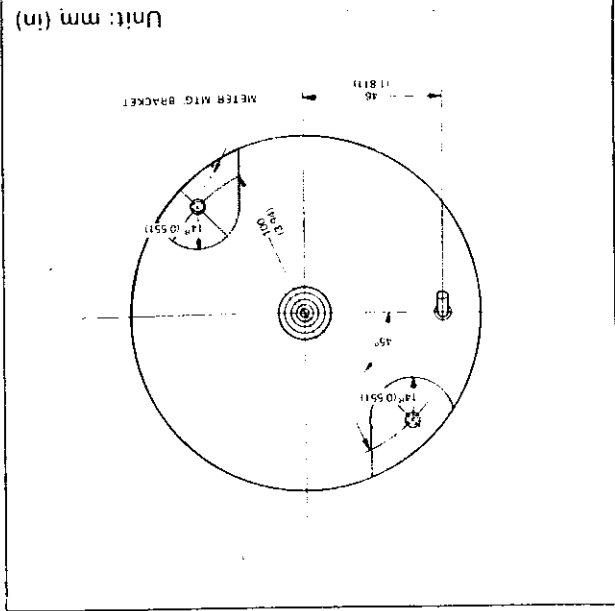

Fig. BE-15 Details of speedometer installation brackets
- c. See Figure BE-15 for details of the speedometer support bracket and mounting bracket.